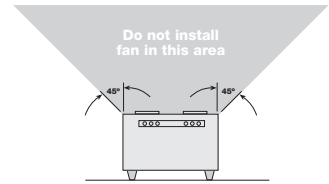

Fig. 7
1. For best performance, choose a location with the shortest possible duct run and minimum number of elbows. Do not mount near cooking equipment, as shown in Fig. 7.